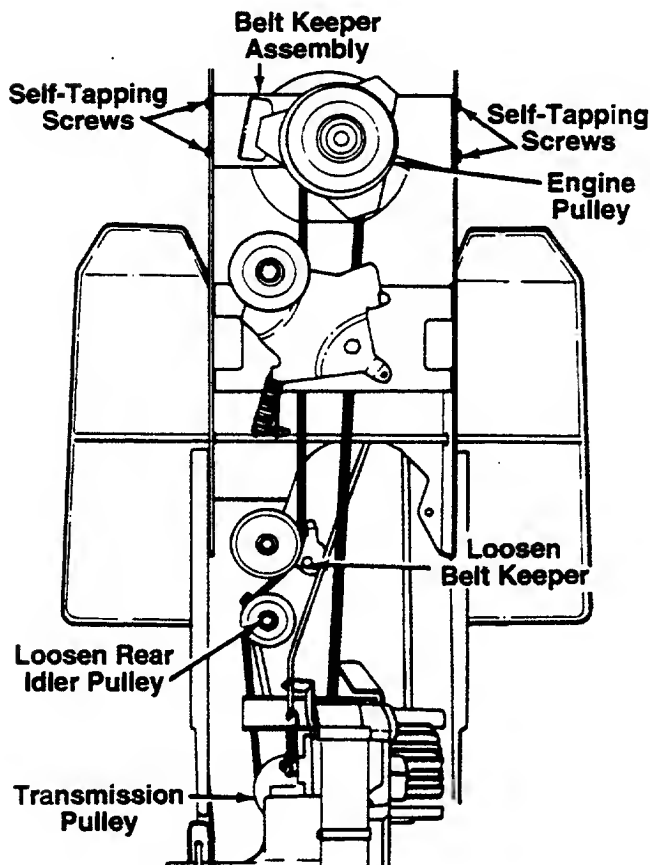

FIGURE 20.
DRIVE BELT REPLACEMENT (See figure 20)
4. Remove the four self-tapping screws which hold the belt keeper assembly to the frame at the engine pulley. Push the belt keeper assembly forward, out of the way. See figure 20.